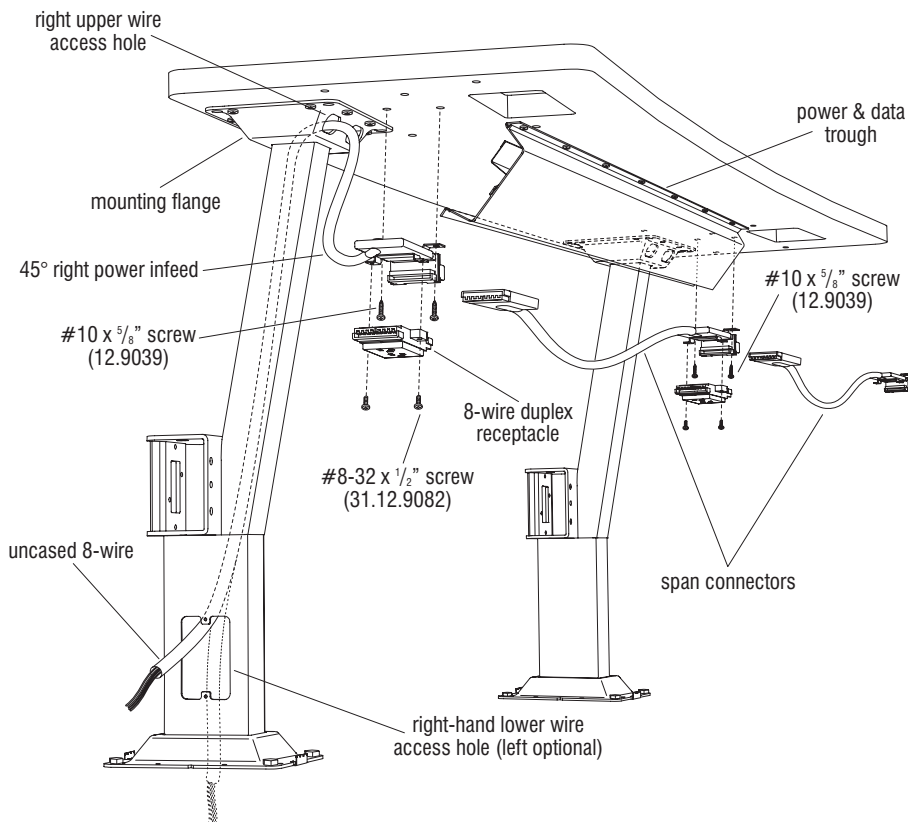
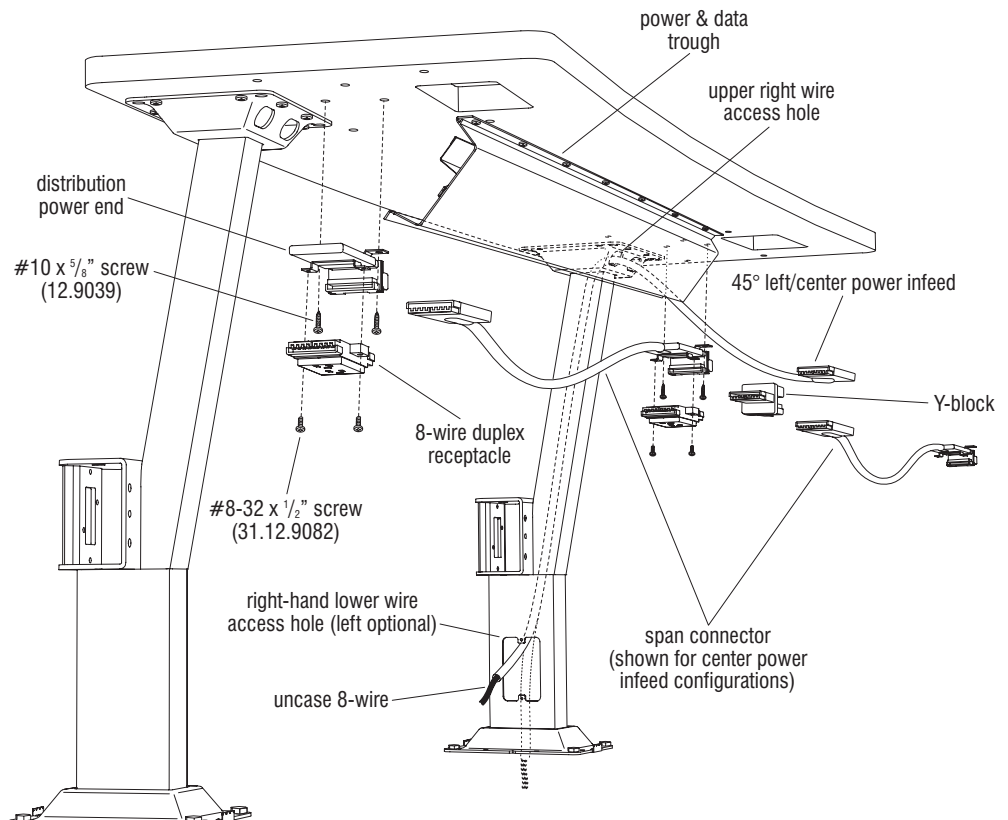

Figure 8 - Right Power Infeed
Figure 9 - Left or Center Power Infeed
Note: If power and/or data lines are to enter a base from below floor level (no exposed connections), the data and power connections must be made prior to securing the base flange to the floor. The power infeed harness (45° right or left/center) must be run down through the mounting flange, column and base flange at this time. Connections must then be made. Refer to the space-planning layout for infeed type and see figures 8 or 9. Data wires must run up a separate column, following a similar route as the power.
21. Fasten the hinge side of the trough to the underside of the top with the #10 x 3/8" screws provided and torque to 25 in/lbs. All screw holes in the trough must be utilized. The power & data trough can be left hanging open for installation of the electrical and data cabling (Figure 8).
Note: The 45° right power infeed (Figure 8) is to be used at the beginning of an electrical run where the power feeds into the lower wire access hole at the right side of a run of units (facing the front of the room). The 45° left/center power infeed (Figure 9) can be used in two circumstances. One is where power is to enter a run of units from a lower wire access hole at the left side of a run of units (facing the front of the room), and the other circumstance is when the power infeed is to enter at the center of a run of units.
23. For **right power infeed** configurations, feed the uncased 8-wire end of the 45° right power infeed first through the "right upper wire access hole" in the top mounting flange, and then down the base and out of a lower wire access hole (Figure 8). Mount the opposite end of the 45° right power infeed to the underside of the top with two #10 x 5/8" screws provided at the guidemarks drawn through the hardboard template in step 20. Torque screws to 25 in/lbs. To extend power to the next station for **right infeed** configurations, insert and click the plug end of a span connector into the mounted end of the span connector and fasten the mounting end to the table top at the next set of electrical guidemarks (Figure 8).
24. Look to the left side of the table top underside (facing the front of the room) for the electrical guidemarks that were drawn through the hardboard template. For either **right or left infeed** configurations (Figures 8 & 9), mount a span connector to the underside of the table top with #10 x 5/8" screws provided at the electrical guidemarks and torque to 25 in/lbs. For **right power infeed configurations**, route the flexible conduit through the power & data trough and plug the span connector into the 45° right power infeed that was installed in step 23 (Figure 8).
For **left or center power infeed** configurations, feed the uncased 8-wire end of the 45° left/center power infeed first through the "right upper wire access hole" in the top mounting flange, and then down the base and out of a lower wire access hole (Figure 9). The opposite end of the 45° left/center power infeed will be left to hang until step 26 below.
Note: In both figure 8 & 9 illustrations, a right-hand lower wire access hole is depicted. Depending on the space-planning layout, a left-hand lower wire access hole may be specified.
Note: Next in step 26, for **left/center infeed** configurations, (Figure 9) the distribution power end may be substituted for a span connector if power is to be continued beyond that point to another station.
25. For **left/center power infeed** configurations, first mount a distribution power end to the right underside of the table top (facing the front of the room) at the electrical guidemarks with #10 x 5/8" screws provided. Torque screws to 25 in/lbs to secure. Plug the span connector into the distribution power end making sure that the flexible conduit is cradled by the power & data trough (Figure 9). Next, at the end where the span connector was fastened to the top, plug a Y-block into the station-to-station power connector and plug the 45° left power infeed into the top opening of the Y-block (Figure 9). For center power infeed configurations, the plug-end of a span connector can be plugged into the bottom opening in the Y-block to continue power on to the next station (Figure 9).
26. Following the space-planning diagram, install 8-wire duplex receptacles with #8-32 x 1/2" screws provided to 45° right power infeed and span connectors (Figure 8), or distribution power end and span connectors (Figure 9). Tighten screws to 20 in/lbs to secure.